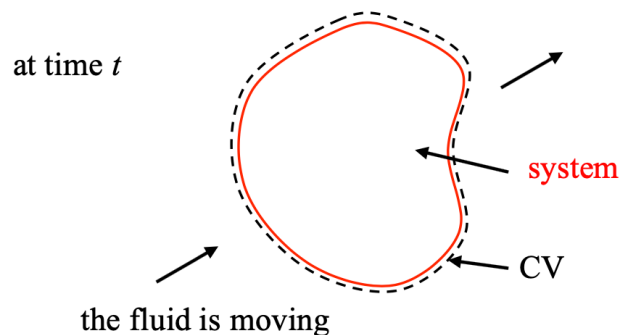

FIGURE 4.3. A sketch of a system and control volume of fluid that are coincident at time  $t$ .
Let's consider a system of fluid particles that is coincident (occupying the same region in space) as our control volume (CV) at some time,  $t$  (Figure 4.3). At some later time,  $t + \delta t$ , the system may have moved relative